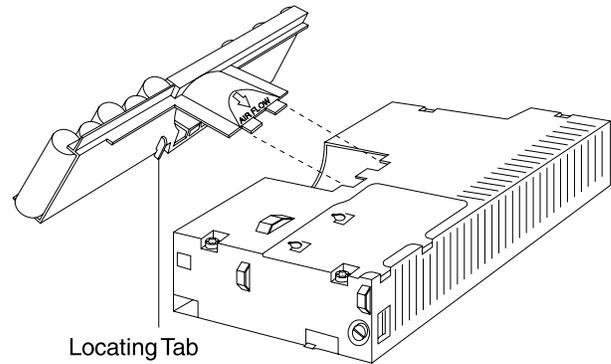

Figure 3-1. Installing the Plenum and Battery Assembly
5. Align the tabs at the top of the plenum with the cutouts in the top of the power supply. Pivot the assembly downward while aligning the locating tabs at the bottom of the plenum with the cutouts in the side of the power supply. Press downward until the plenum snaps into place. See Figure 3-1.